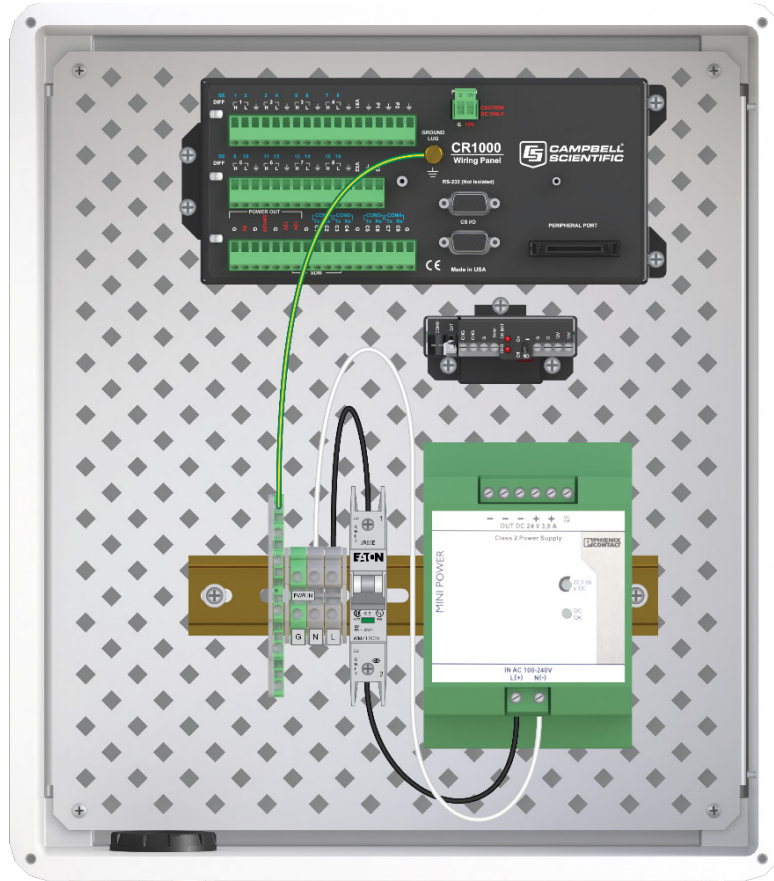

FIGURE 5-6. Connecting the 3 x 6 terminal block to the datalogger
5. Connect the 3 x 6 terminal block to the datalogger (not included) ground point using a green/yellow 14 AWG ground wire (FIGURE 5-6). The remaining points on the terminal block are intended for additional accessories with ground lugs, such as the AVW200 or the SDM-CD8.